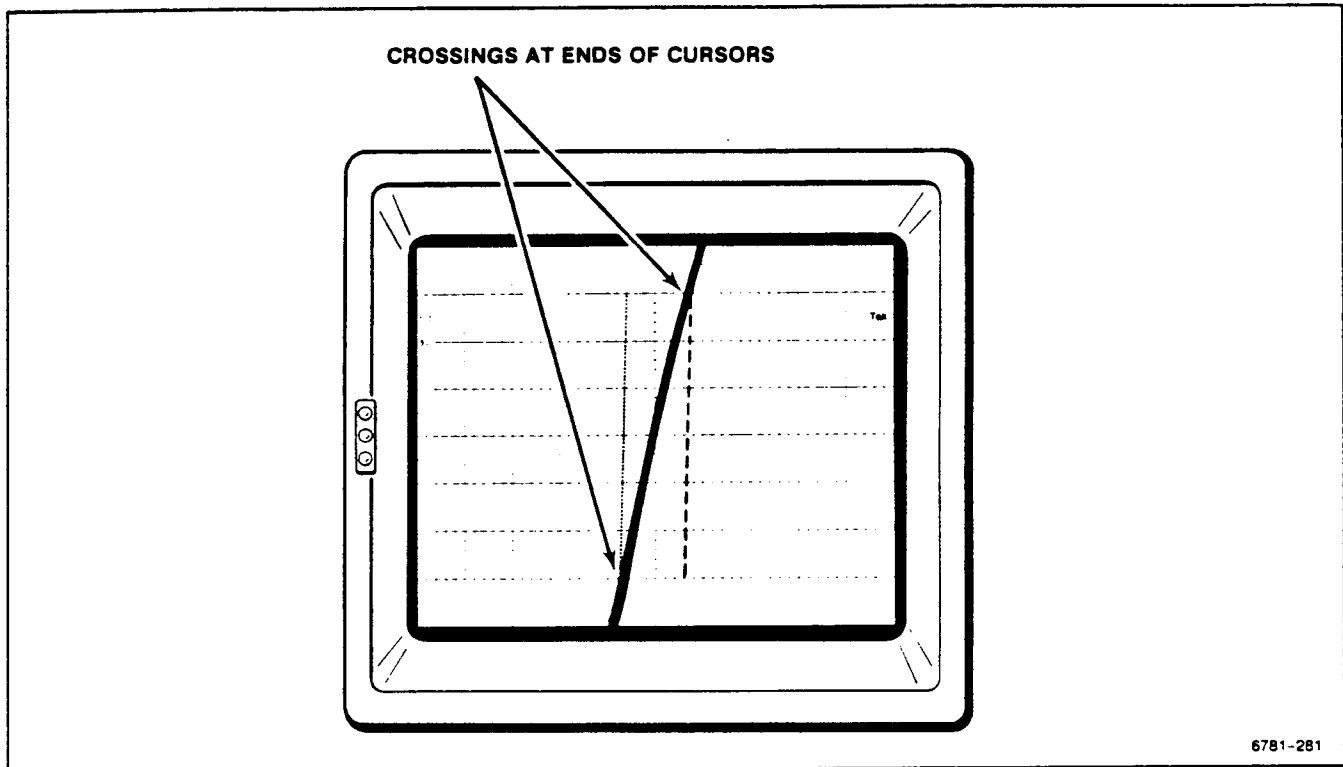

Figure 2-30. Display showing proper alignment of rising edge to Cursors.
- m. Connect the coaxial cable from the 11K Amplifier CH 1 input to the front-panel **CALIBRATOR** output. In the following test you will be asked to carefully position the rising edge of a waveform between two cursors. Figure 2-30 shows the correct waveform to cursor alignment.